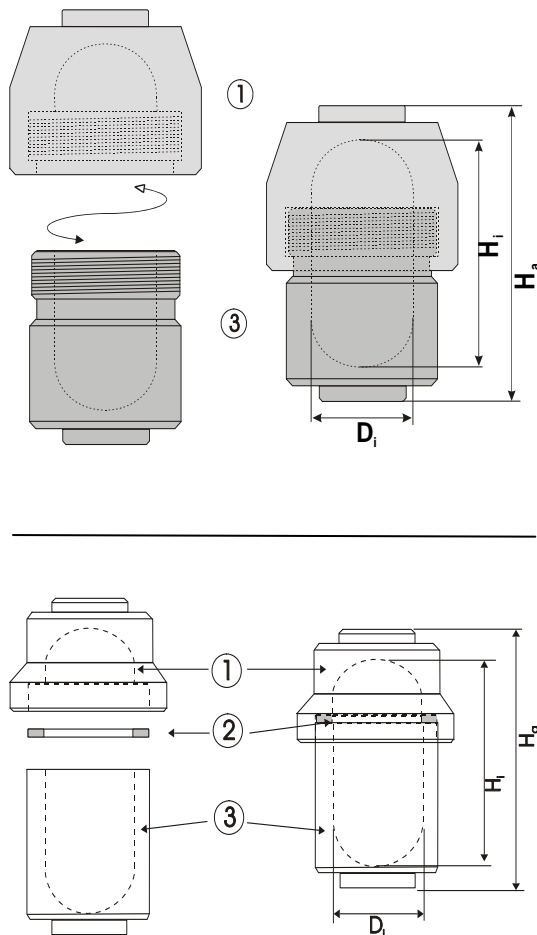

Fig. 2: Standard shaking flask
- For details refer to Fig. 2 in section 3 of this manual.